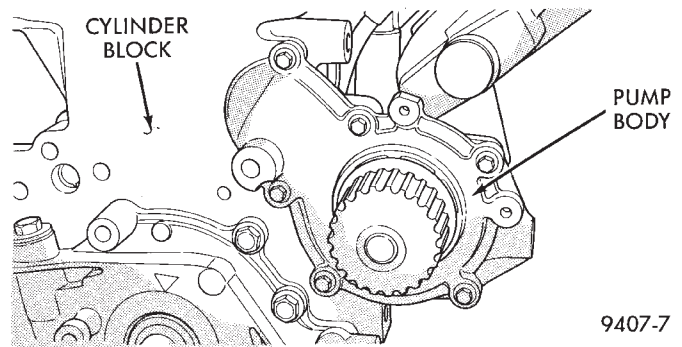

Fig. 22 Water Pump
(1) Raise vehicle on a hoist. Remove right inner splash shield.
(2) Remove accessory drive belts and power steering pump. Refer to Accessory Drive Belt service of this section.
(3) Drain cooling system. Refer to Draining Cooling System in this group.
(4) Support engine from the bottom and remove right engine mount.
(5) Remove power steering pump bracket bolts and set pump and bracket assembly aside. Power steering lines do not need to be disconnected.
(6) Remove right engine mount bracket.
(7) Remove timing belt. Refer to Timing Belt Removal in Group 9 for procedure.
(8) Remove inner timing belt cover.
(9) Remove water pump attaching screws to engine (Fig. 22).
(2) Assemble pump body to block and tighten screws to 12 N·m (105 in. lbs.) (Fig. 22). Pressurize cooling system to 15 psi with pressure tester and check water pump shaft seal and O-ring for leaks.